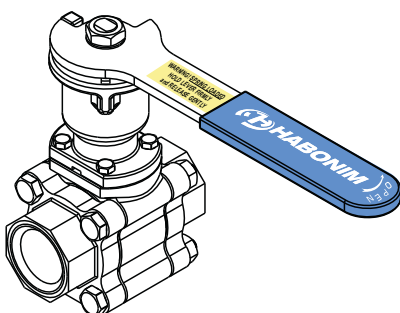

FIGURE 4
3. For Fail Open ensure the valve is in the open position (See figure 4).